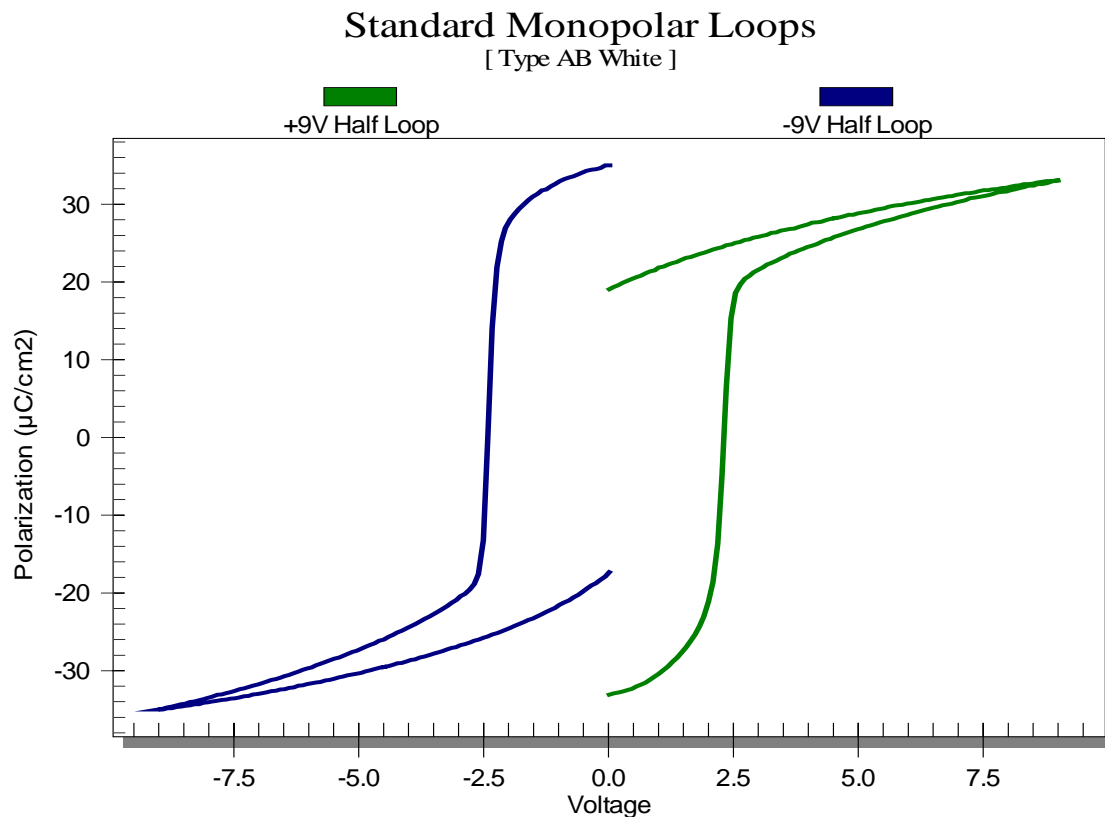

Figure F02.6
- 11) As a final note, you can export the values of the plot in Figure F02.6 above to a spreadsheet and then “center” the loops yourself. To export the numerical values of this plot, follow the instructions in Step 15 of ..\Introduction Experiments\Experiment I04 - Plotting Tools.doc. Paste the data into the spreadsheet. Next, find the average of the first and last points of each measurement and subtract that average from every point in that plot. Finally, re-plot the data. The results look amazingly like a full hysteresis loop! We will use this technique in the next experiment to great effect.